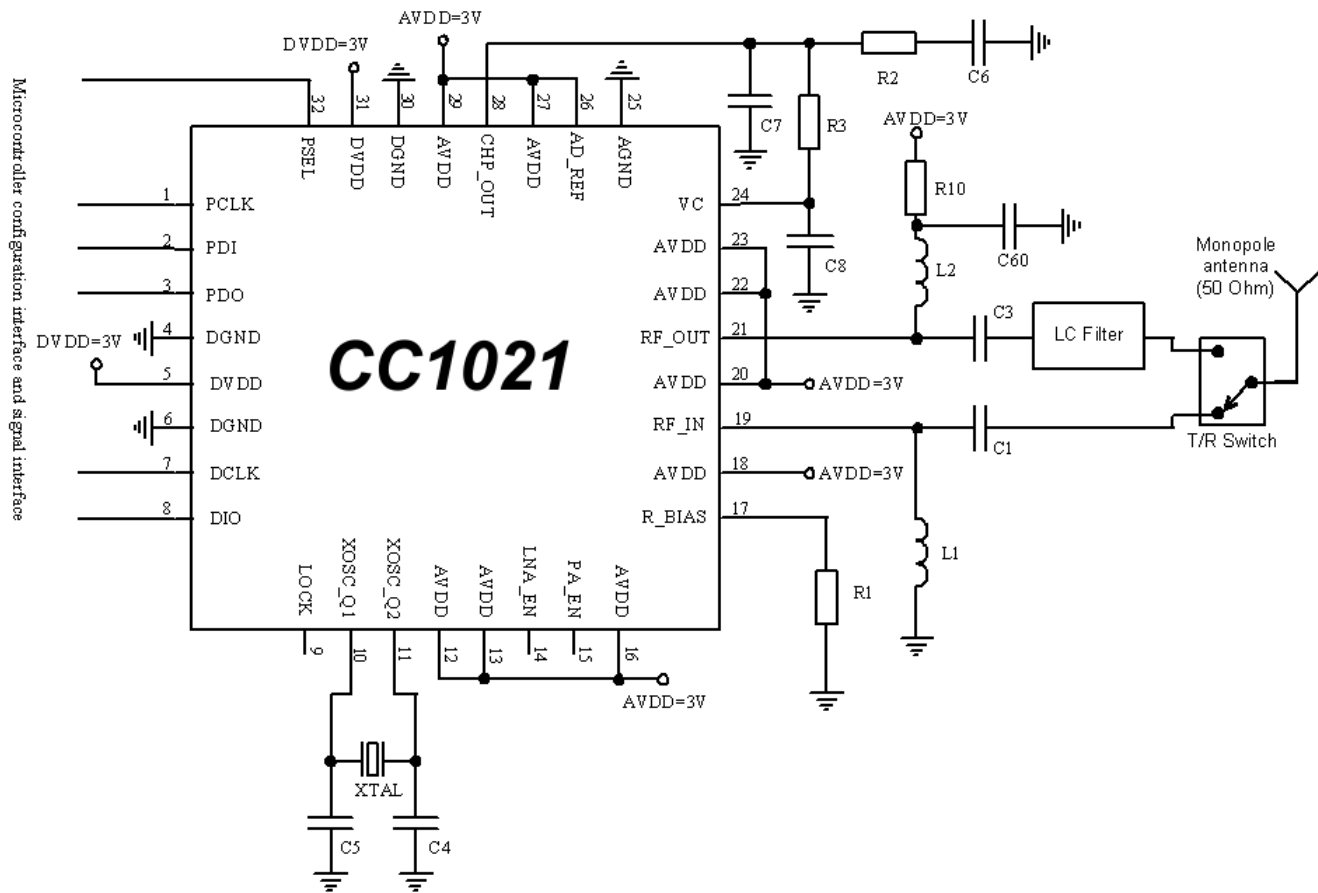
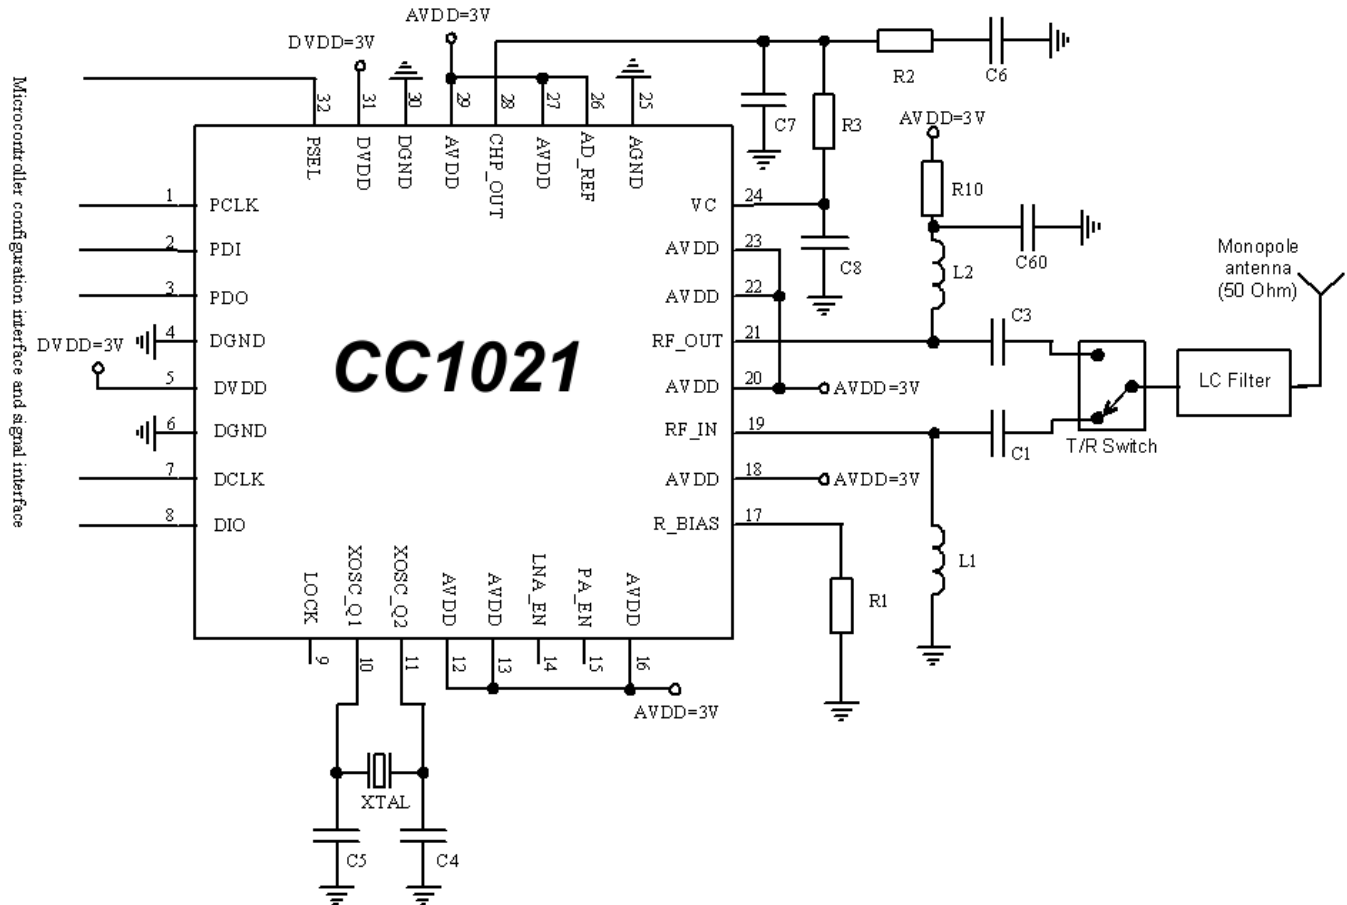

Figure 6-1. Typical Application and Test Circuit (Power Supply Decoupling Not Shown)
Figure 6-2. Alternative Application Circuit (Power Supply Decoupling Not Shown)
Very few external components are required for the operation of CC1021. The recommended application circuit is shown in Figure 6-1. The external components are described in Table 6-1 and values are given in Table 6-2.
**Table 6-2. Bill of Materials for the Application Circuit in Figure 6-1 (1)(2)**
The LC filter in Figure 6-1 is inserted in the TX path only. The filter will reduce the emission of harmonics and the spurious emissions in the TX path. An alternative is to insert the LC filter between the antenna and the T/R switch as shown in Figure 6-2.